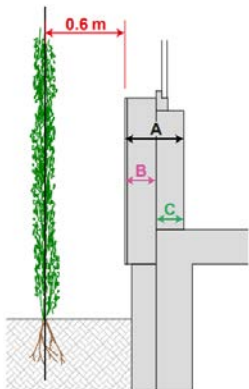

Abb. 8
- 0.6 m distance between greenery and façade (Fig. 8)